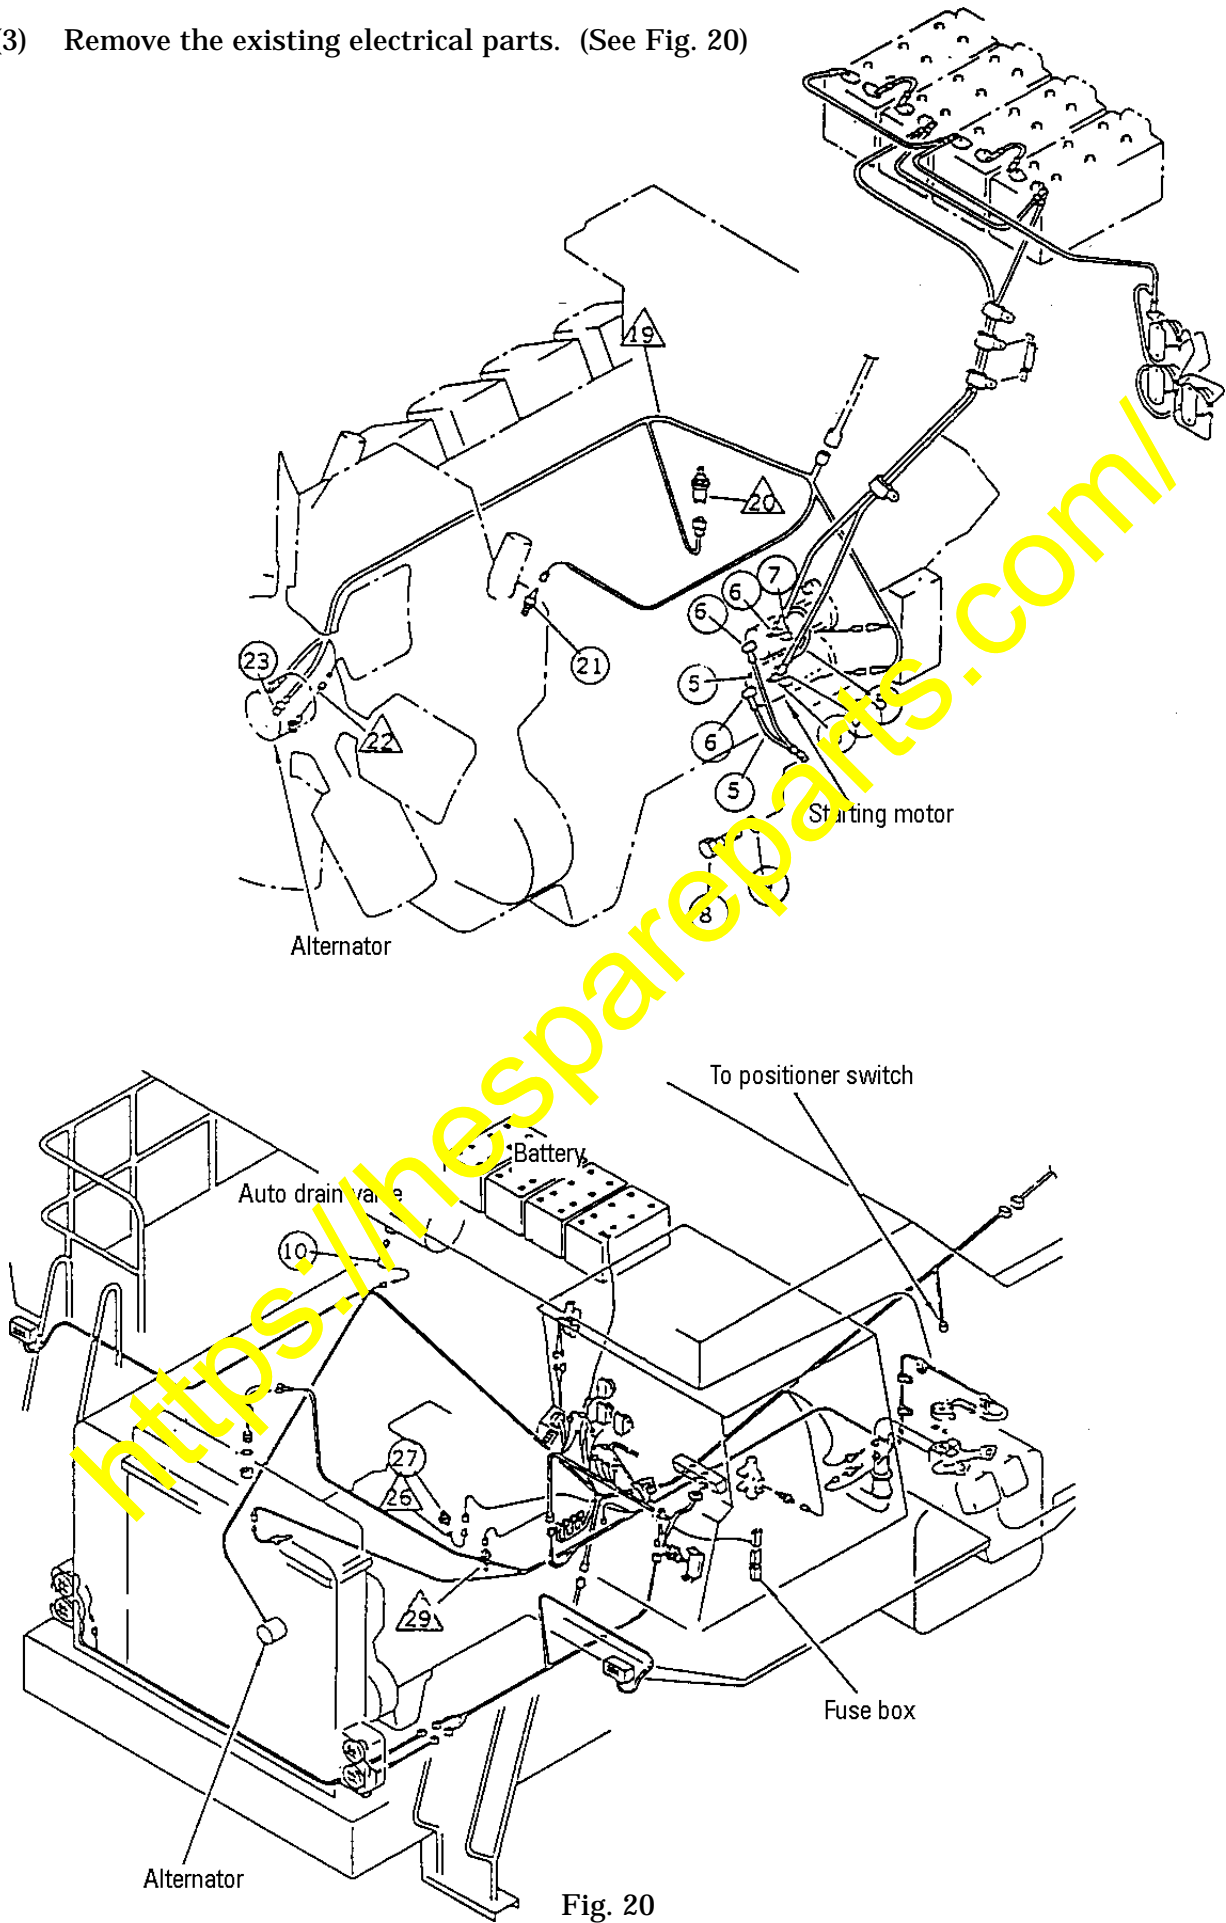

Fig. 20
(3) Remove the existing electrical parts. (See Fig. 20)